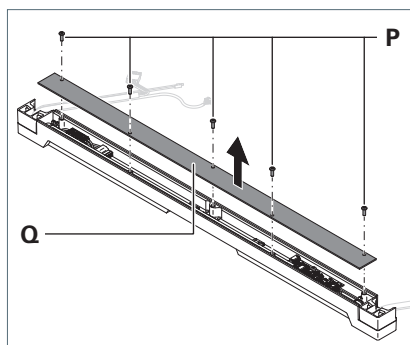

Fig. 6: Crossbar- removing the cover.
4. Unscrew the screws **P** from the cover **Q**, see Fig. 6.